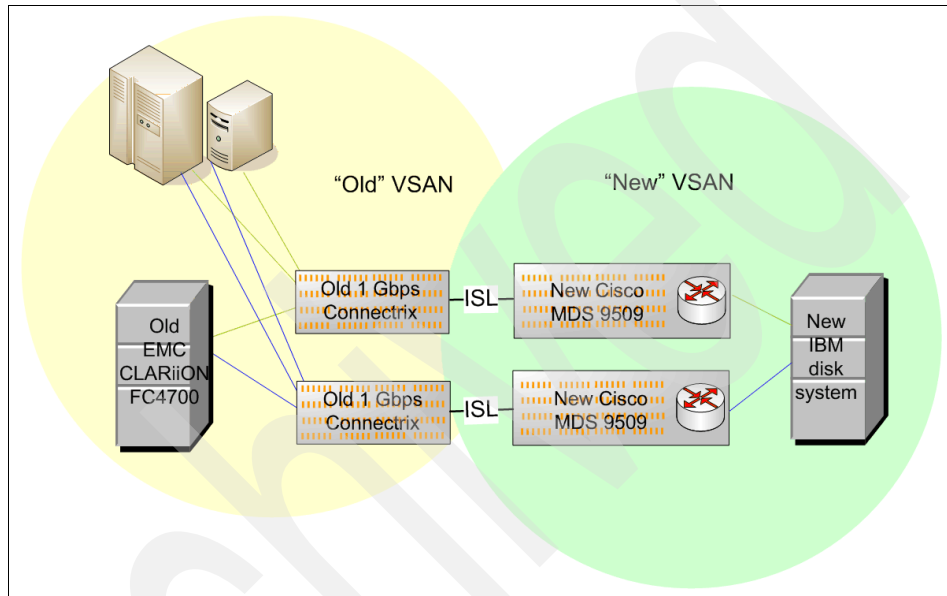

Figure 8-9 IVR allows separation during migration phase
1. You attach the new disk systems directly to the new fabric, as shown in Figure 8-9, and can access LUNs from the servers. There is no need to have multipath access to the new disk system during the migration phase, so you can avoid issues around multipath drivers for now.